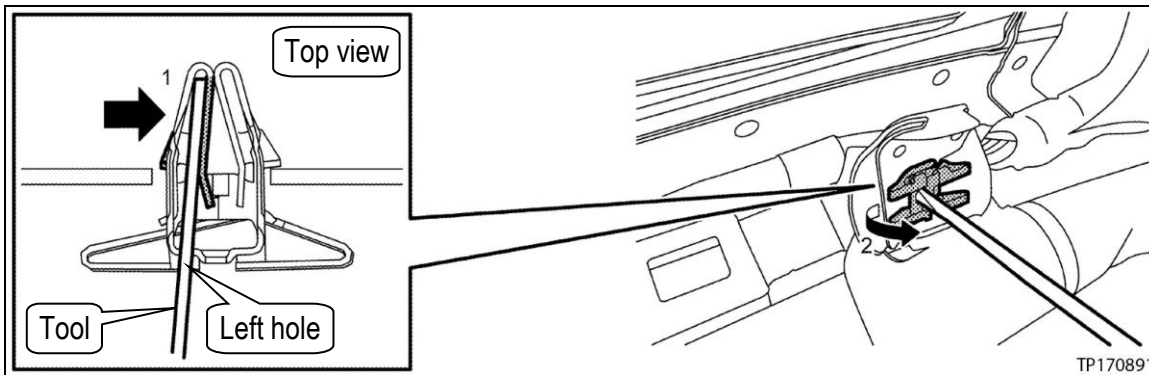

Figure 33
- a. Insert a suitable tool (such as a thin flat blade screwdriver) in the clip's left hole, press inward, and then partially pry out (see Figure 33).